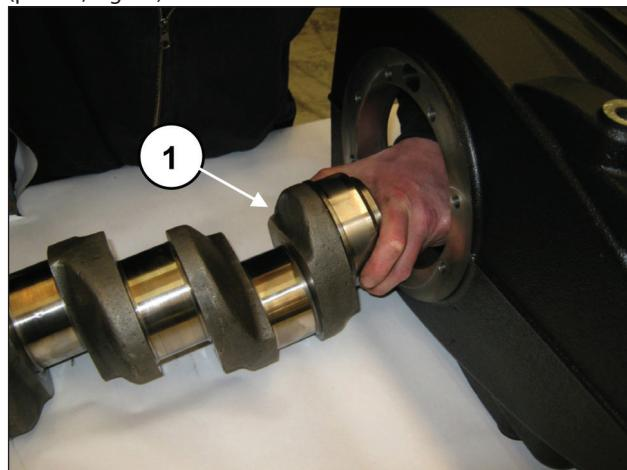

Fig. 49
Insert the shaft from the PTO side, taking care not to hit the previously assembled con-rod shanks (pos. ①, Fig. 49) and (pos. ①, Fig. 50).